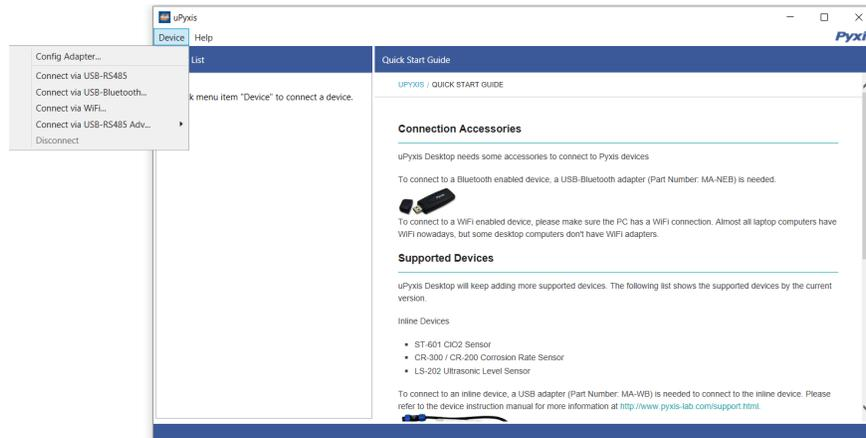

Figure 13.
3. On **uPyxis®** Desktop App, click Device→ **Connect via USB-Bluetooth** or **Connect via USB-RS485** (Figure 13).
4. If the connection is successful, the ST-590 and its Serial Number (SN) will be displayed in the left pane of the **uPyxis®** window.